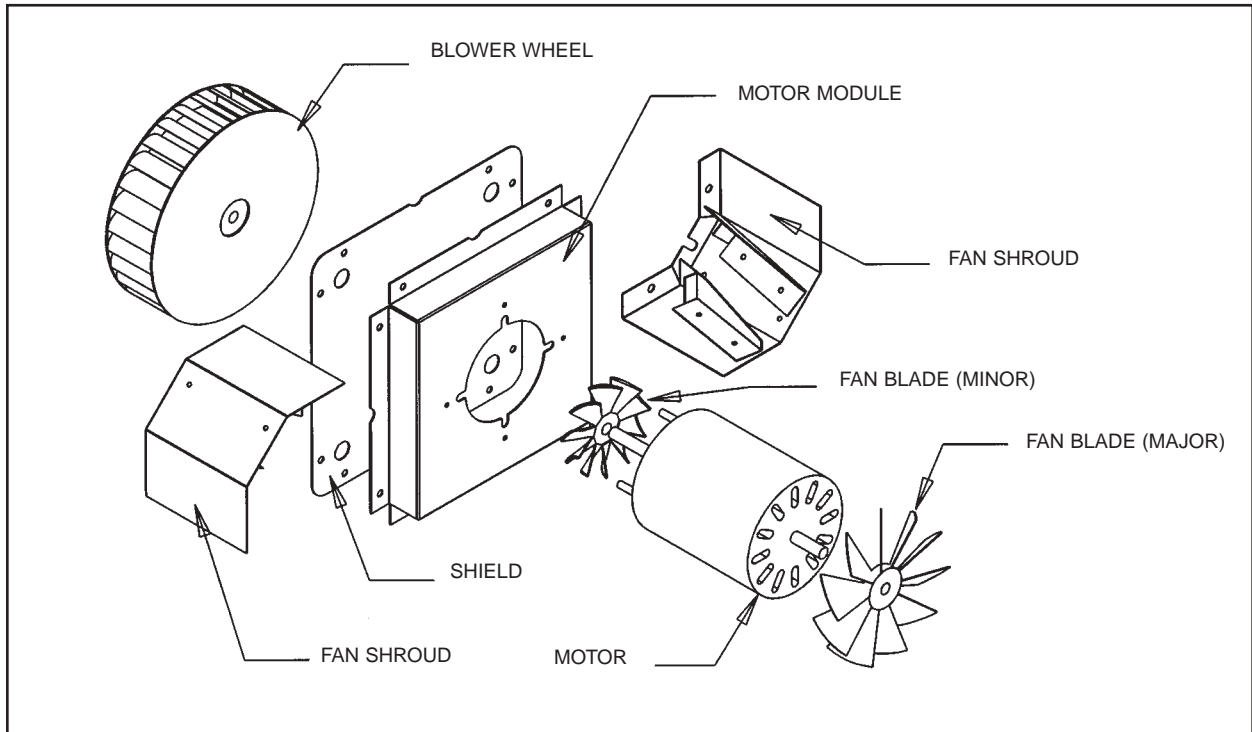

Figure 4. Motor Module Assembly
- 2) **REMOVE WIRES:** The three wires use quick connect terminals that simply push on/pull off. See Figure 4 for correct wiring of switch.